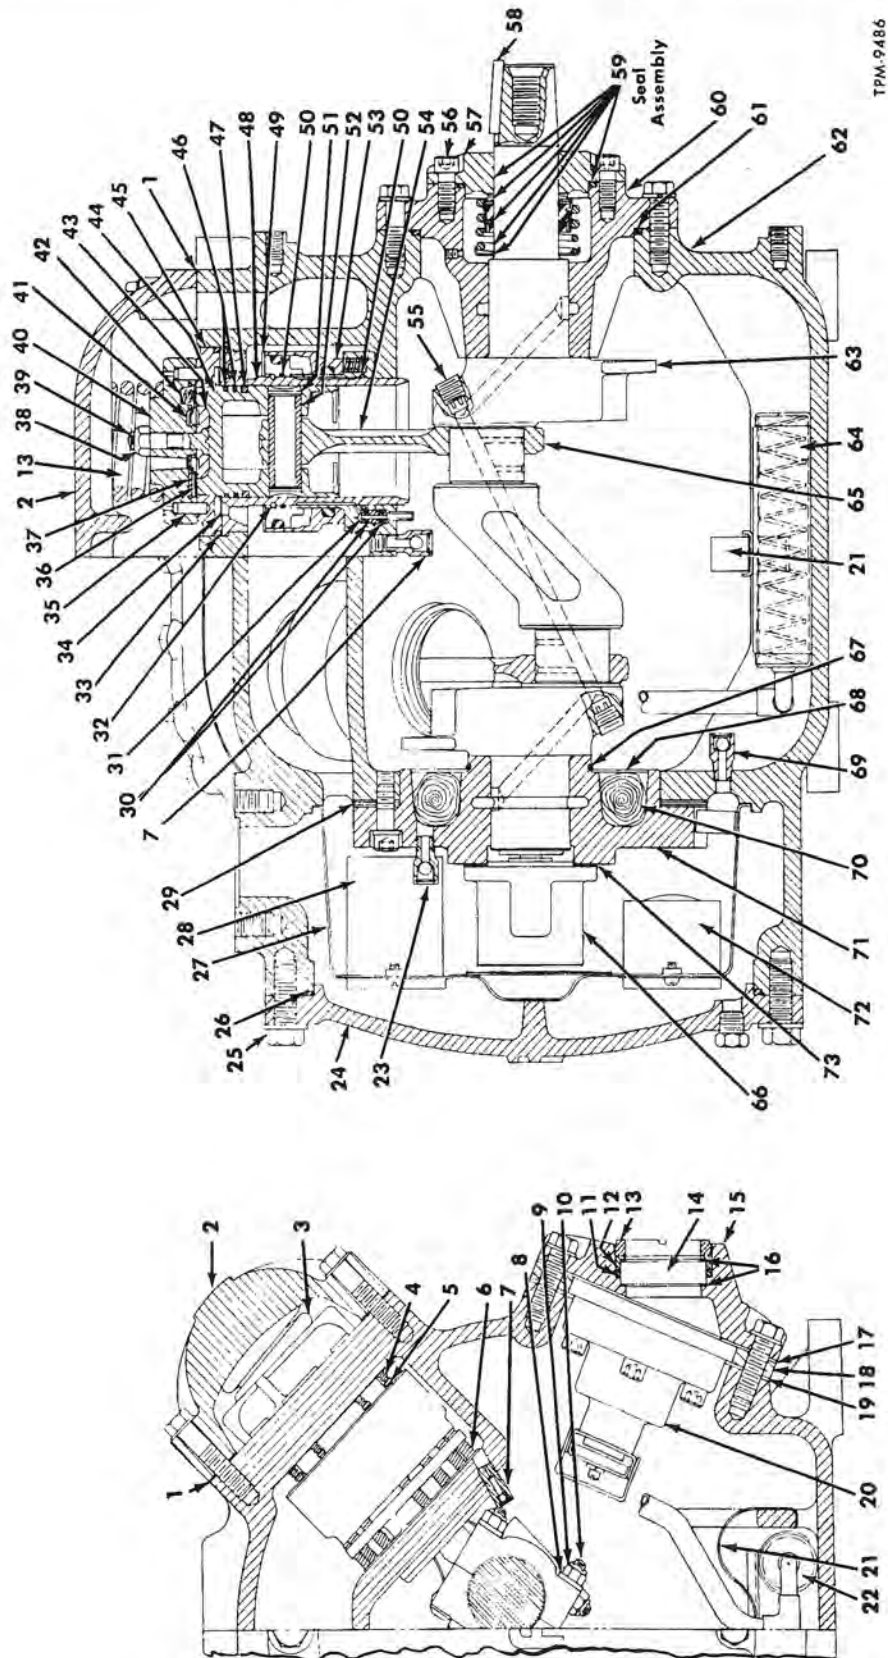

Figure 65—Refrigerant Compressor Assembly
NOTE: Figure 65 shown later under "Refrigerant Compressor Overhaul" shows sectional view of compressor.
Before overhauling compressor (fig. 65), the system must be pumped down and the unit removed from coach. Pumping down system instructions are explained later under "SYSTEM SERVICES AND TESTS." See "Pumping Down The System." Instruction procedures for removing compressor are explained previously under "Compressor Replacement."
Captions For Figure 65
NOTE: Key numbers in text refer to figure 65.
**NOTE:** Refer to Step 2 below for disassembly of liner assembly less the cylinder unloader mechanism. Key numbers in text refer to figure 65.
**NOTE:** Key numbers in text refer to figure 65.
1. Remove all suction cover attaching screws (25) with the exception of the top screw. Back out top screw 10 or 12 full turns. This screw will support cover when cover seal is broken.
2. The cover is provided with two jack screw holes. Thread two cover attaching screws in these holes, then turn screws alternately to force cover from compressor housing. Remove cover and cover O-ring (26).
3. Remove strainer pan assembly (27) from the compressor suction chamber. Strainer assembly can be serviced as explained later under "Cleaning and Inspection."
**NOTE:** Crankshaft is removed from rear (suction end) of compressor. Key numbers in text refer to figure 65.
1. Remove screws which attach rear bearing head (71) to compressor housing. Insert two attaching screws into jack screw holes in bearing head. While turning screws inward to pull bearing head, check to see if crankshaft, which might be seized to bearing, is following bearing head. If it is, support front end of shaft through handhole cover opening. If shaft does not follow head, back head out and support at bottom with hand. Remove head or head and crankshaft. Remove shims (29) from head or housing.